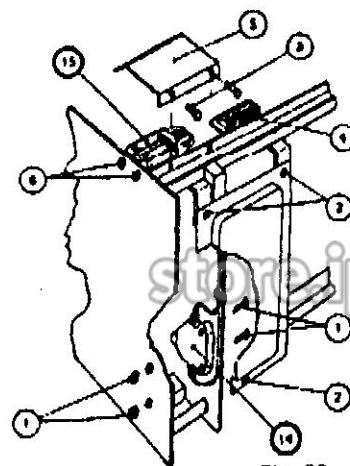

Fig. 30
- G. Motor (Fig. 30). To gain access to motor, remove protective cover (5) held by two bolts (3). After removing wires from terminal block (4) and mounting nuts (6), lift motor from gear train. When replacing motor, check to see that clearance exists between pinion and gear. No further adjustment is required after motor is